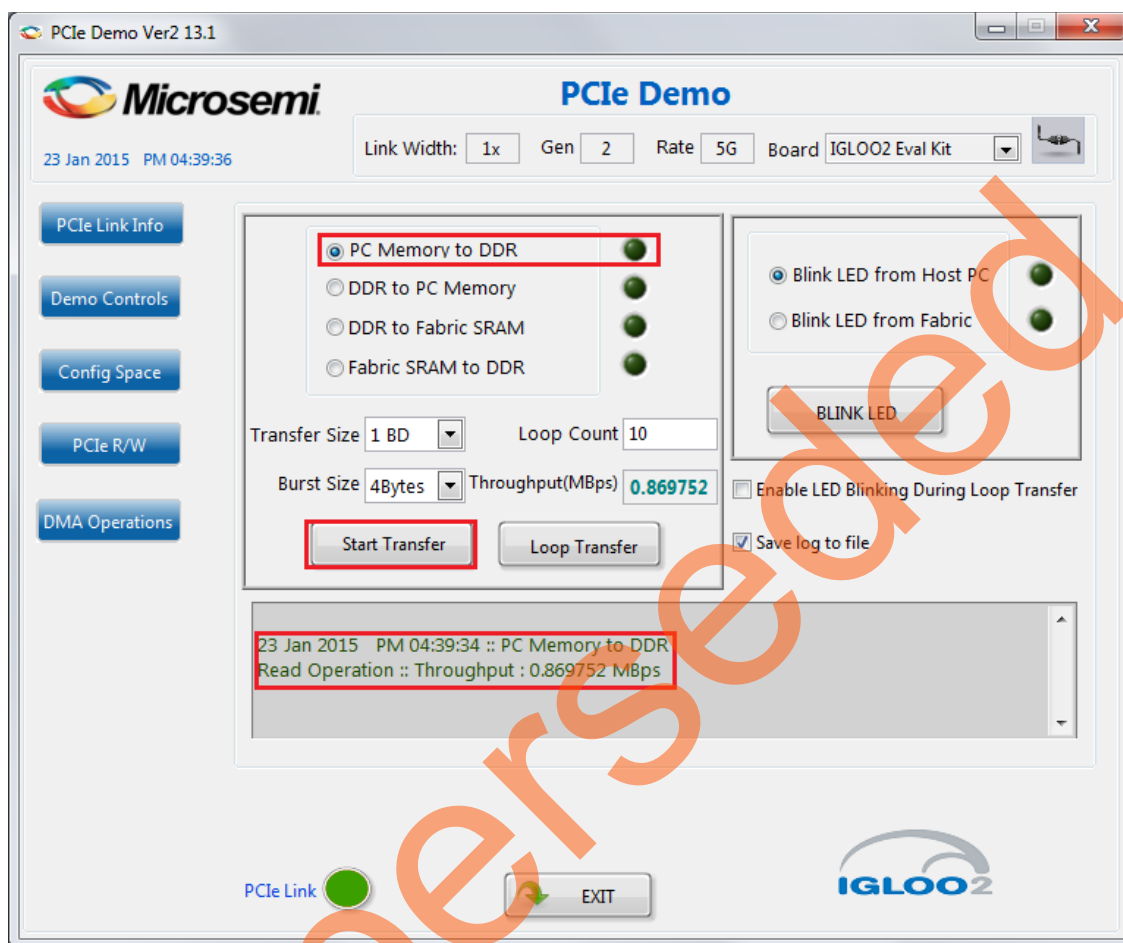

Figure 26 • DMA Transaction - PC Memory to DDR
19. Select the type of DMA transfer as **PC Memory to DDR**. Select any **Transfer Size**, and click **Start Transfer** after completion of the data transfer, the GUI displays the throughput in MBps as shown in Figure 26.